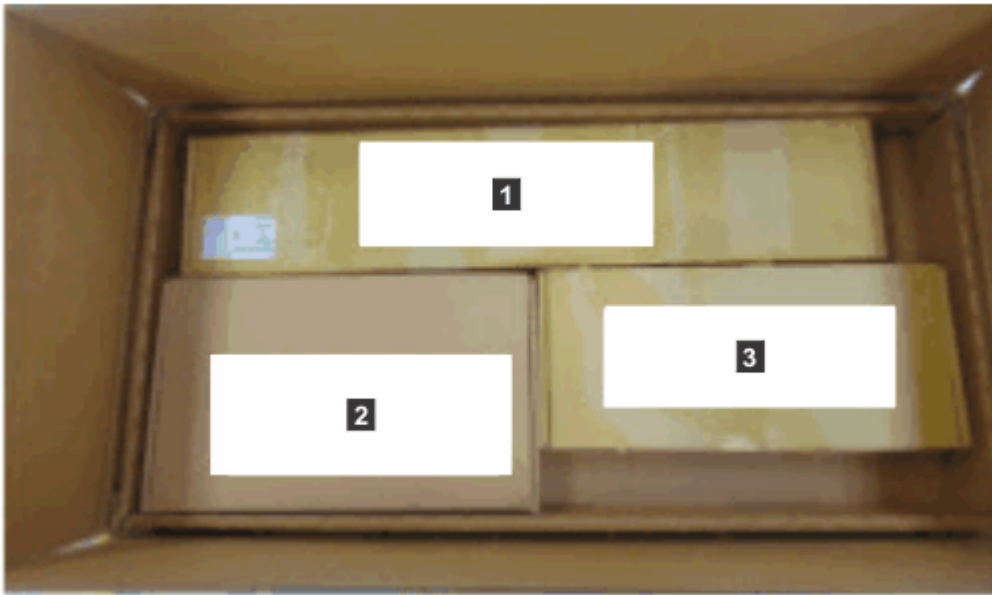

Figure 38. Tray containing expansion enclosure parts
The 2076-92F expansion enclosure and most parts are shipped together in one large box. A tray on the top of the enclosure contains the front fascia (1U and 4U pieces), the cable management arm (CMA), and the slide rail kit; you must install these parts. Figure 38 on page 43 shows how the enclosure is packaged for shipment.
6. Remove the support rail kit from the box in which it was shipped (**1**), as shown in Figure 38 on page 43).
17. Remove the cable management arm assembly from its packaging (**2** in Figure 38 on page 43).